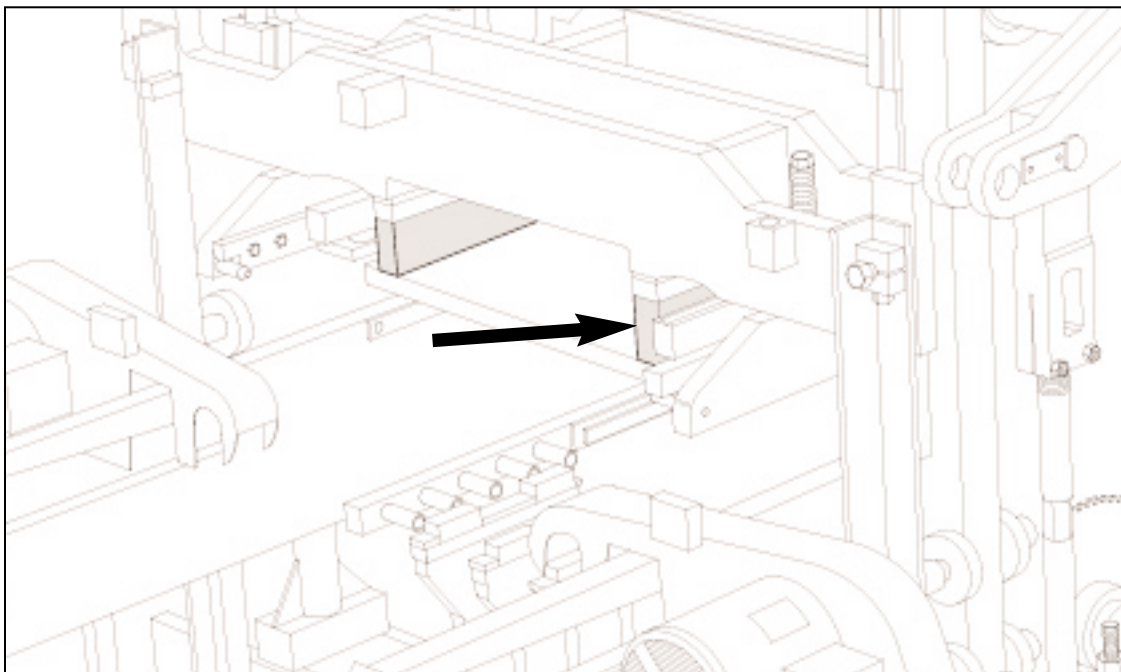

Figure 18.19 127mm [5.0"] BLOCKING UNDER STRIPPER HEAD FRAME.
18.1.12 The ULTRAPAC II is now ready for the installation of the mold assembly. Follow the directions for installing an attachment in section 5 of this manual. When installing the stripper head, use **317mm [12.5"]** long bolts **#087157** and insert **127mm [5.0]** of blocking in addition to the **38mm [1 1/2"]** blocks already affixed to the stripper head frame (figure 18.19).